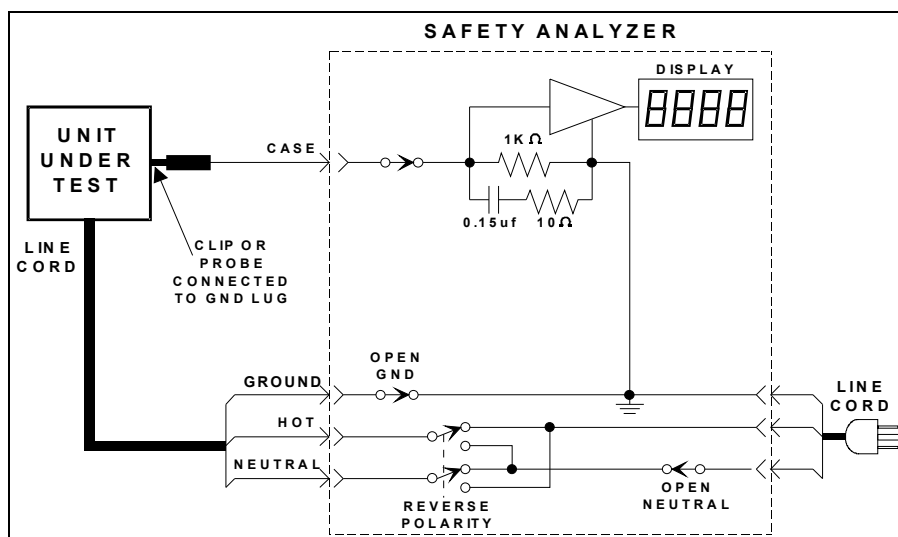

FIGURE 4-13
1. Plug the System into the safety analyzer, as shown in FIGURE 4-13. Connect the CASE ground lead of the analyzer to the GND lug.